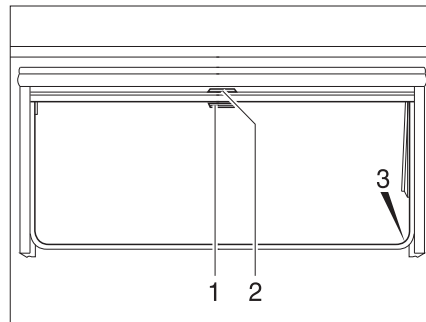

Fig. 41 Hinged window
- Pull blind at the handle (Bild 41,2) downwards. If the blind is to be completely closed, it is suspended into the locking devices (Bild 41,3) situated on both sides of the window frame.
- If the blind is completely closed: Press the handle (Bild 41,2) downwards and, at the same time, tilt it slightly inward. The blind can be taken out of the locking devices situated on both sides of the window frame.
- If the blind is in an intermediate position: Pull the handle (Bild 41,2) slightly downwards until the locking device releases.
- Pull the roller insect screen at the handle (Bild 41,1) downwards and hang it into the locking devices (Bild 41,3) situated on both sides of the window frame.
- Press the handle (Bild 41,1) downwards and, at the same time, tilt it slightly inward. The roller insect screen can be taken out of the locking devices situated on both sides of the window frame.